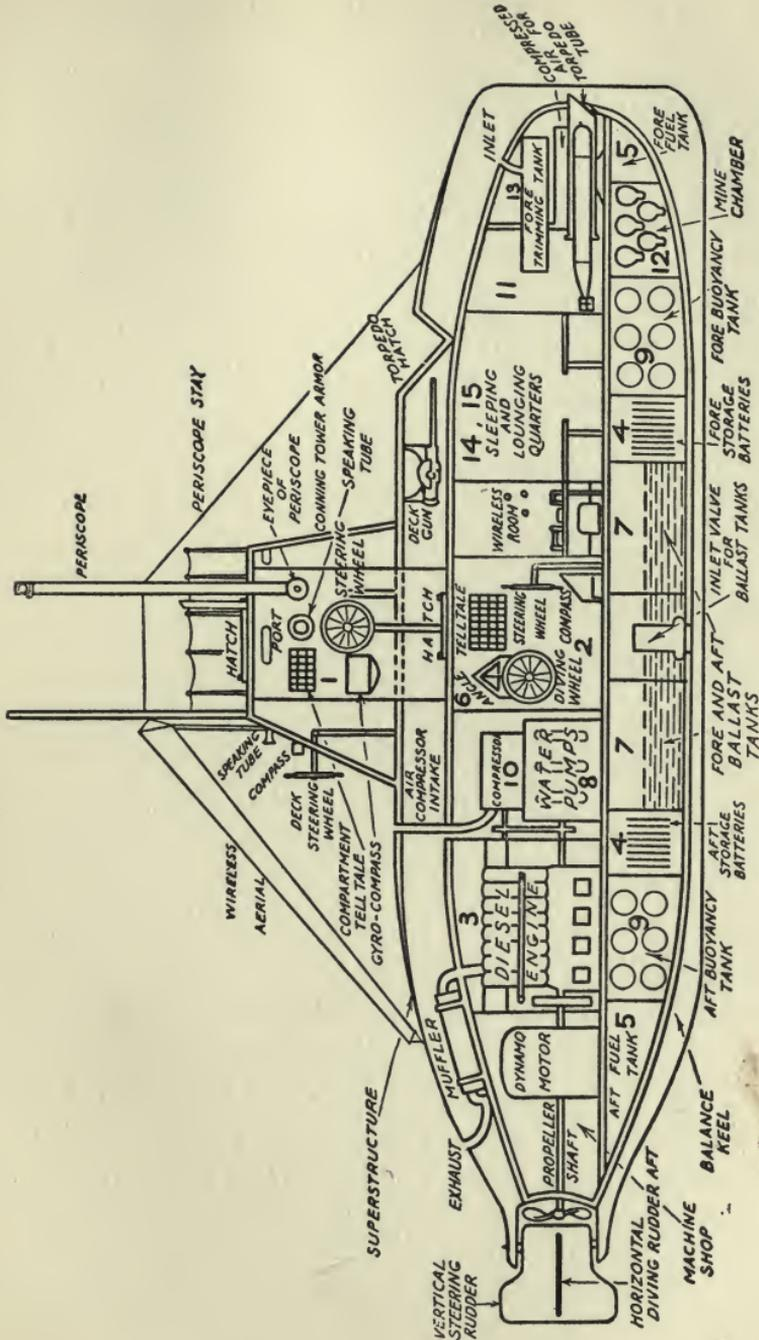

FIG. 25. THE MAIN PARTS OF A SUBMARINE.
These various compartments are: (1) the conning tower; (2) the navigating compartment; (3) the engine and dynamo room; (4) the fore and aft storage battery rooms; (5) the fuel tanks; (6) the diving control compartment; (7) the fore and aft ballast tanks; (8) the water pumps; (9) the fore and aft high pressure air flasks; (10) the high pressure air compressor; (11) the torpedo compartment; (12) the mine compartment; (13) the trimming tanks; (14) the quarters of the crew; and (15) the quarters of the officers. All of these are clearly shown in Fig. 25.
The watertight doors of these compartments are worked by *worm* gears, driven by electric motors, as shown in Fig. 25, and any of the doors can be opened or shut by merely throwing a switch.